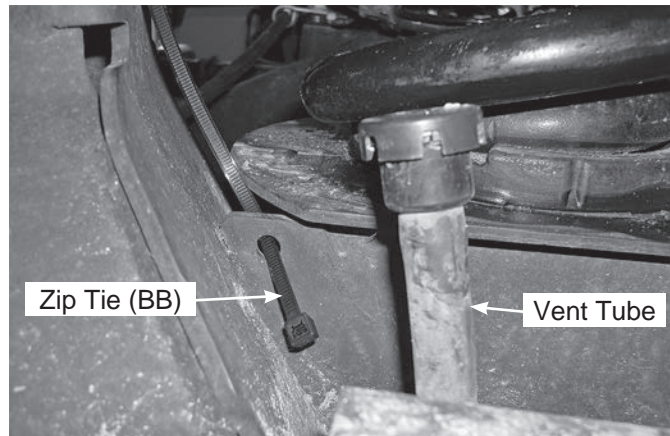

fig. 3
2. On the left side (driver) axle there is a small vent tube (Fig. 3) that needs to be tied on an angle with a Zip Tie (BB).